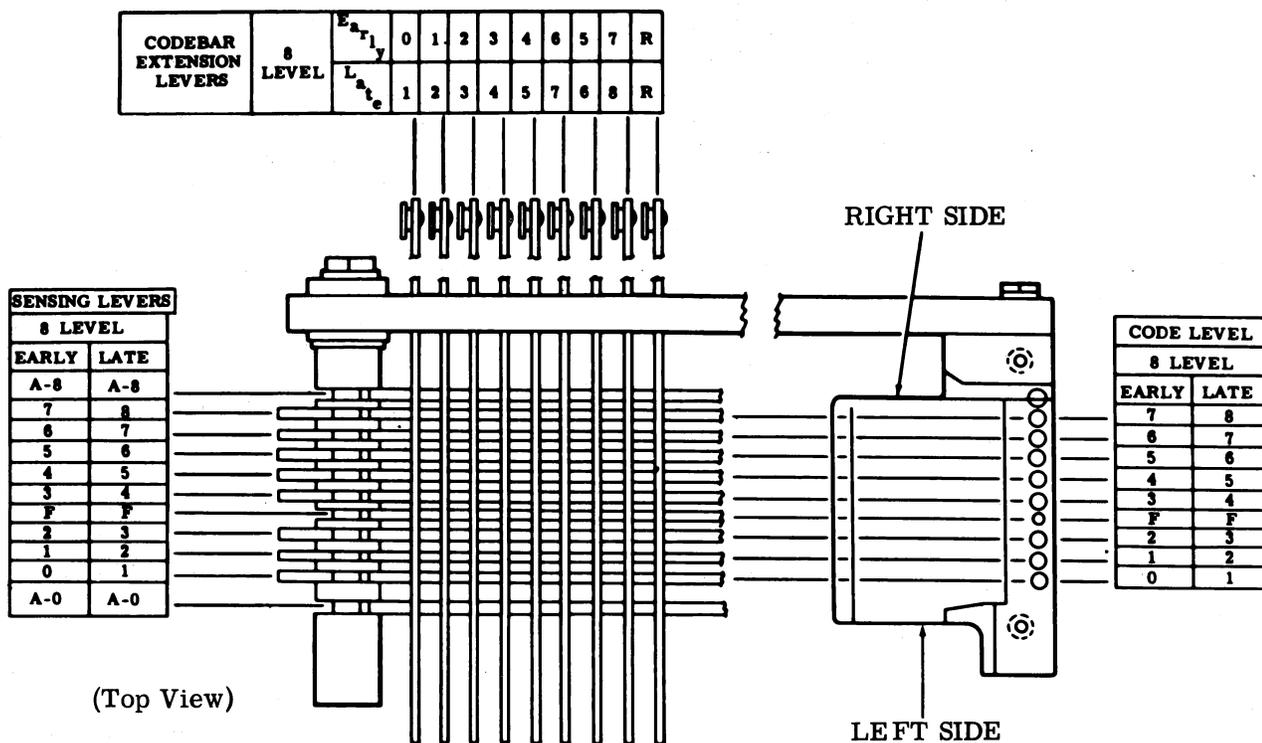

Figure 2 - Tape Punch Code Level Cross Reference Chart
1.15 The relationship between code levels, sensing levers, and codebar extensions is illustrated in Figure 2.
Min 0.005 inch---Max 0.020 inch between the leftmost sensing lever (Figure 2) and its associated pawl.
Note 2: For tape punches equipped with automatic controls, the requirement will be checked between the second from the left sensing lever (Figure 2) and its associated pawl.
Note 3: There should also be some clearance between the rightmost sensing lever (Figure 2) and its associated pawl.